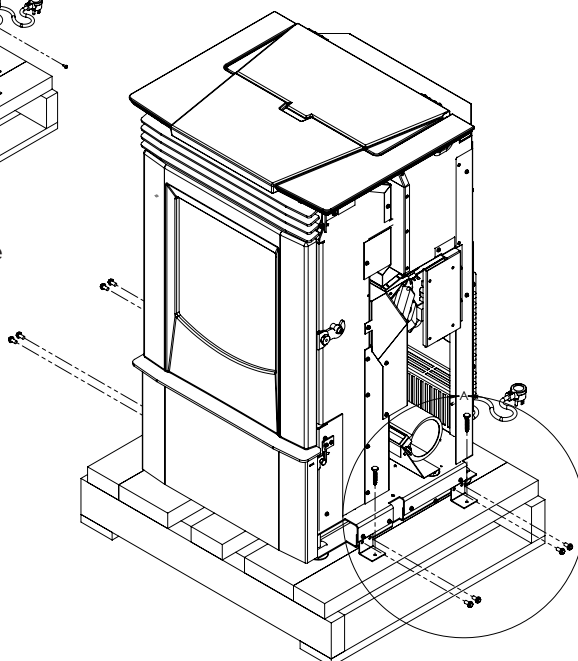

Figure 2: Shipping Bracket Removal
4. Remove the 2 lag bolts on each side that hold the stove to the pallet. See Figure 2.